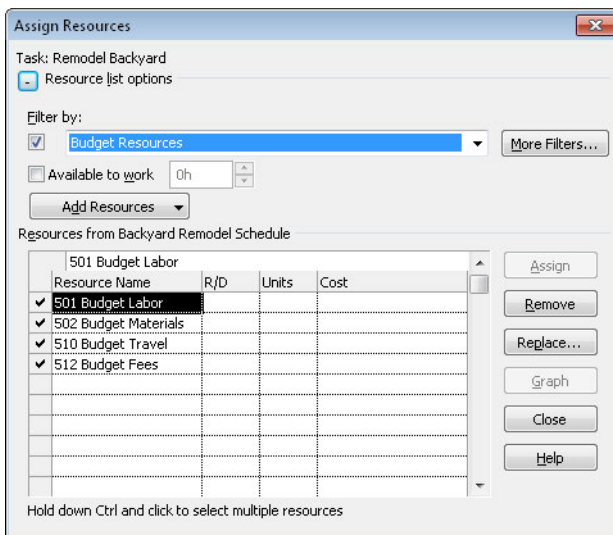

FIGURE 7-5 Filter the resource list in the Assign Resources dialog box to show only budget resources.
3. To display only budget resources in the Assign Resources dialog box, click + to expand the Resource List Options section; select the Filter By check box; and then, in the drop-down list, choose Budget Resources, as shown in Figure 7-5.